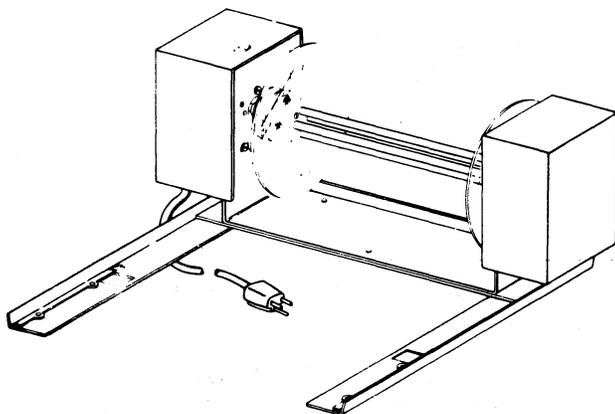
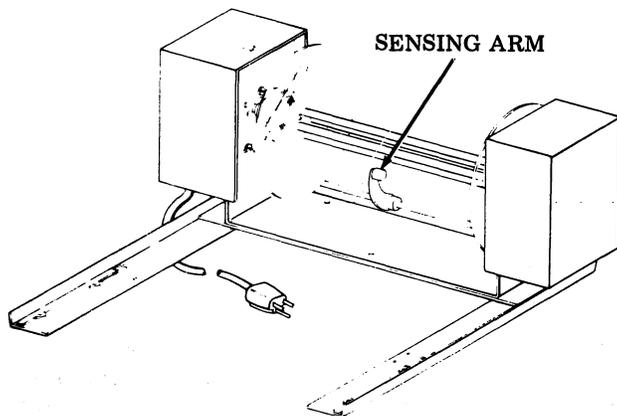

Fig. 1—40PWU101 Paper Winder (Early Design)
Fig. 2—40PWU101 (Late Design) or 40PWU102 Paper Winders
1.03 The 40PWU101 paper winder (Fig. 1—early design or Fig. 2—late design or 40PWU102) is a self-contained unit. It is operable with a friction feed printer operating at a line feed rate of 5.2 lines per second or less, and is recommended for single-copy paper only.